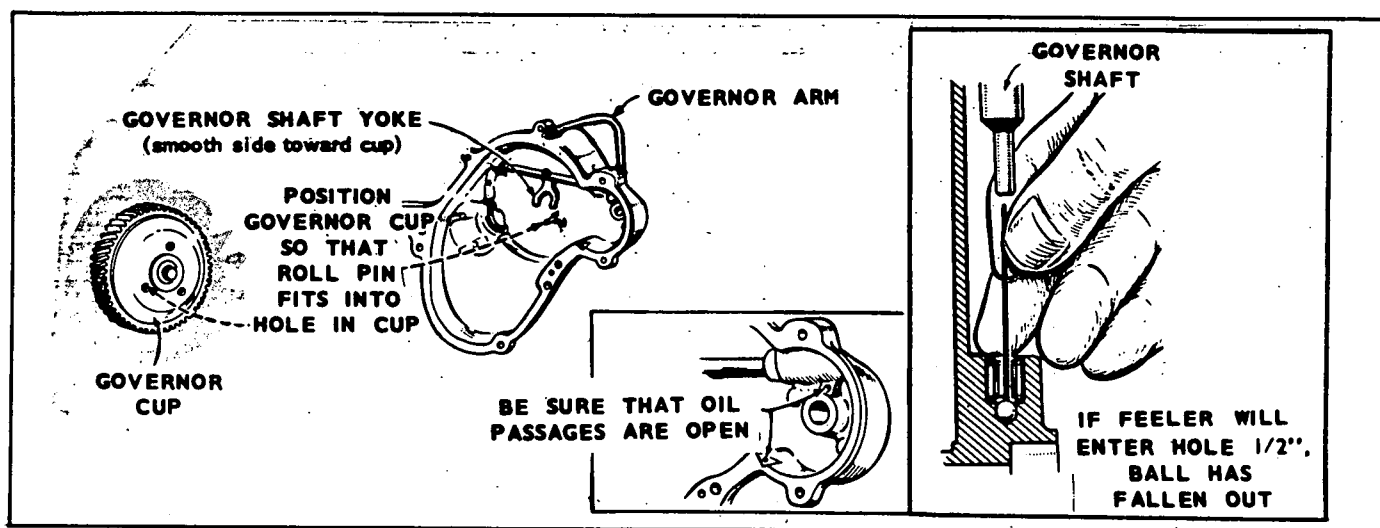

FIGURE 47. GEAR COVER ASSEMBLY
Governor Shaft: The governor shaft is supported by two sets of needle bearings. To remove the shaft, remove the yoke and pull the shaft from the gear cover. If the shaft is binding, clean the bearings. If loose, replace the bearings. To remove the larger bearing, drive both bearing and oil seal out from the outside of the gear cover. Remove the smaller bearing with an Easy-Out or similar tool. Press new bearings and oil seal into place. See Figure 47.
1. Work the governor shaft to check for binding and see that the governor shaft end-thrust ball is in place (Figure 47). Later models have larger ball which will not fall out.
3. Turn the governor cup so the stop pin in the gear cover will fit into one of the holes in the cup surface (Figure 47). Measure the distance from the end of the stop pin to the mounting face of the cover. It should be 25/32 inch. If it is not, replace the pin. Pin should be positioned with open end facing crankshaft seal.